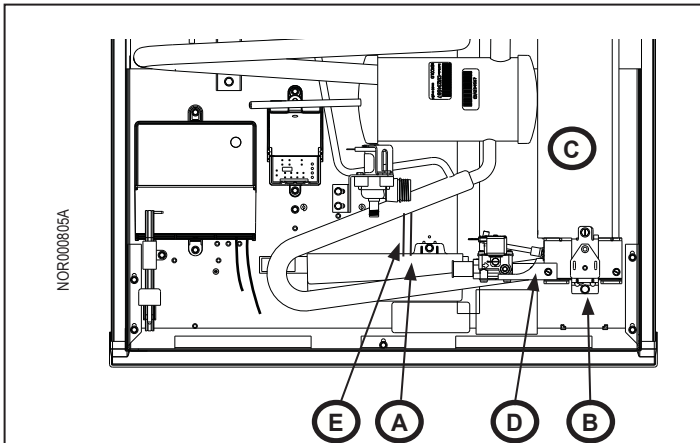

Fig. 8 - Gas Train Assembly
1. Remove screw (1x) from drip cup (Fig. 8, A). Lay drip cup aside.
2. Remove screws (2x) from gas train mounting bracket (Fig. 8, B).
3. Remove gas train mounting bracket from cooling unit (Fig. 8, C). Lay bracket aside.
4. Remove gas train assembly (Fig. 8, D). from cooling unit. Lay gas train assembly aside.